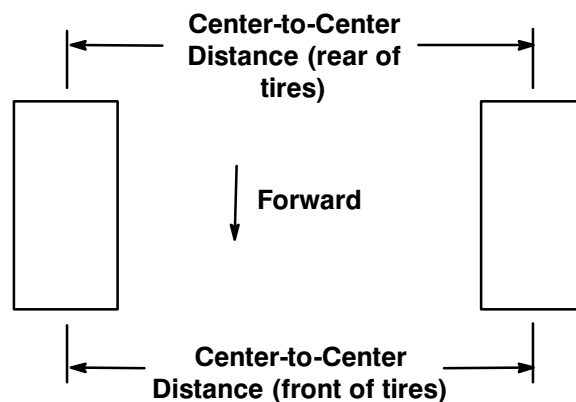

Figure 35
1. Measure the distance between both of the front tires at axle height (at the front and rear of the wheels) (Fig. 35). Front measurement must be equal to the rear measurement $\pm 1/4$ in.